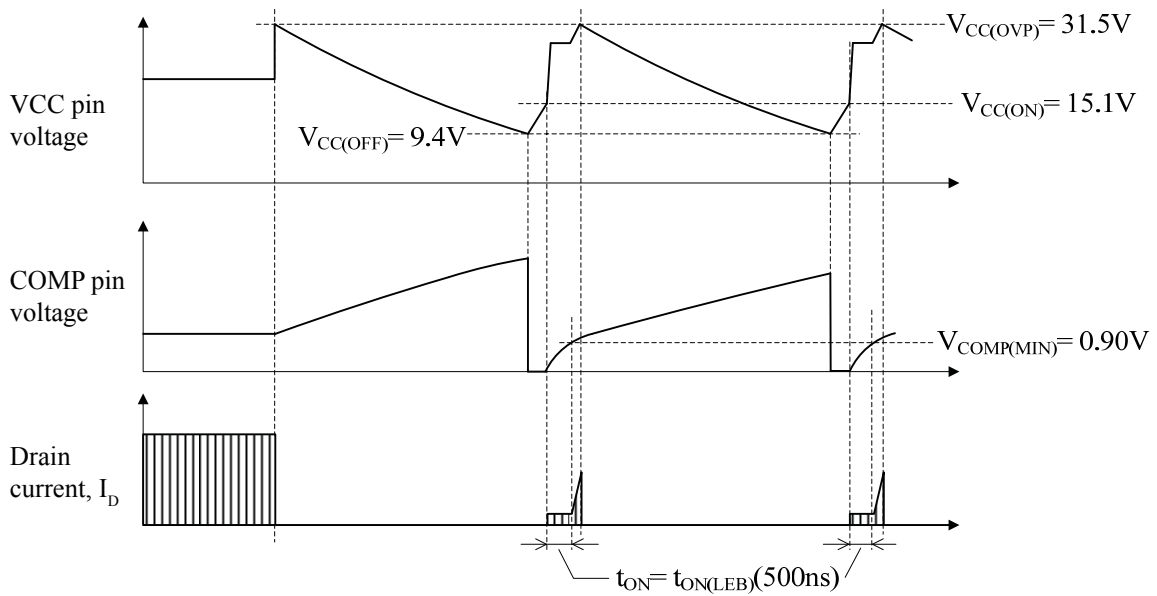

Figure 34. Waveforms when VCC pin OVP is being activated (LC551xD)
- VCC Pin Overvoltage Protection. figure 34 shows the waveforms of the OVP function on the VCC pin. When the VCC pin voltage with reference to the S/GND pin reaches and exceeds $V_{CC(OVP)} = 31.5\text{ V}$, OVP is activated and the IC stops switching